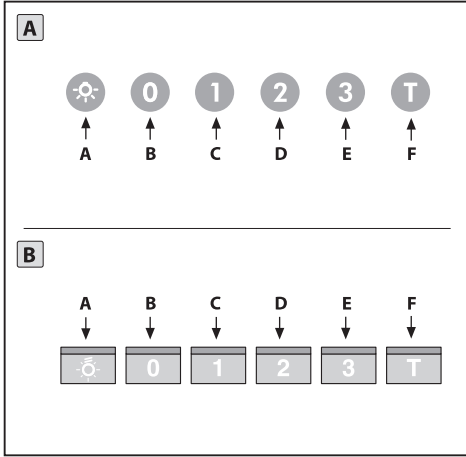

Fig.21
• **Bright Control (Fig.21)** the key symbols are explained below: